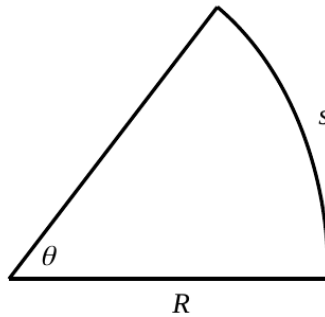

Figure 2: Arc length, angle, and radius
The speed-dependent maximum allowed steering wheel rate is computed based on a user-specified maximum allowed angular acceleration set in the AngAccelLimit calibration parameter. Angular acceleration is defined as the time derivative of yaw rate, so an expression for the yaw rate in terms of the kinematics parameters and steering wheel angle is required first. This can be constructed using the formula (5) relating arc length, angle, and radius, illustrated in Figure 2.